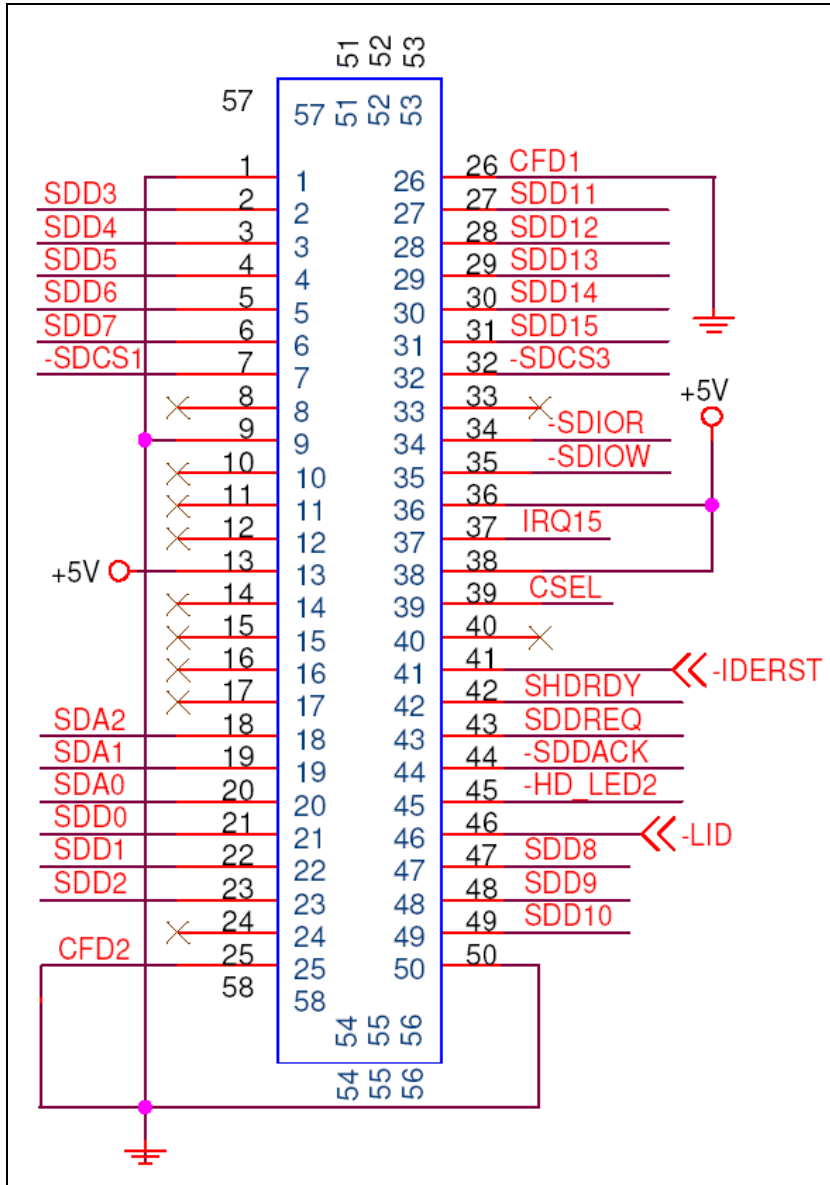

Figure 4-7: CF Card Socket Location
- CN Location:** See **Figure 4-7**